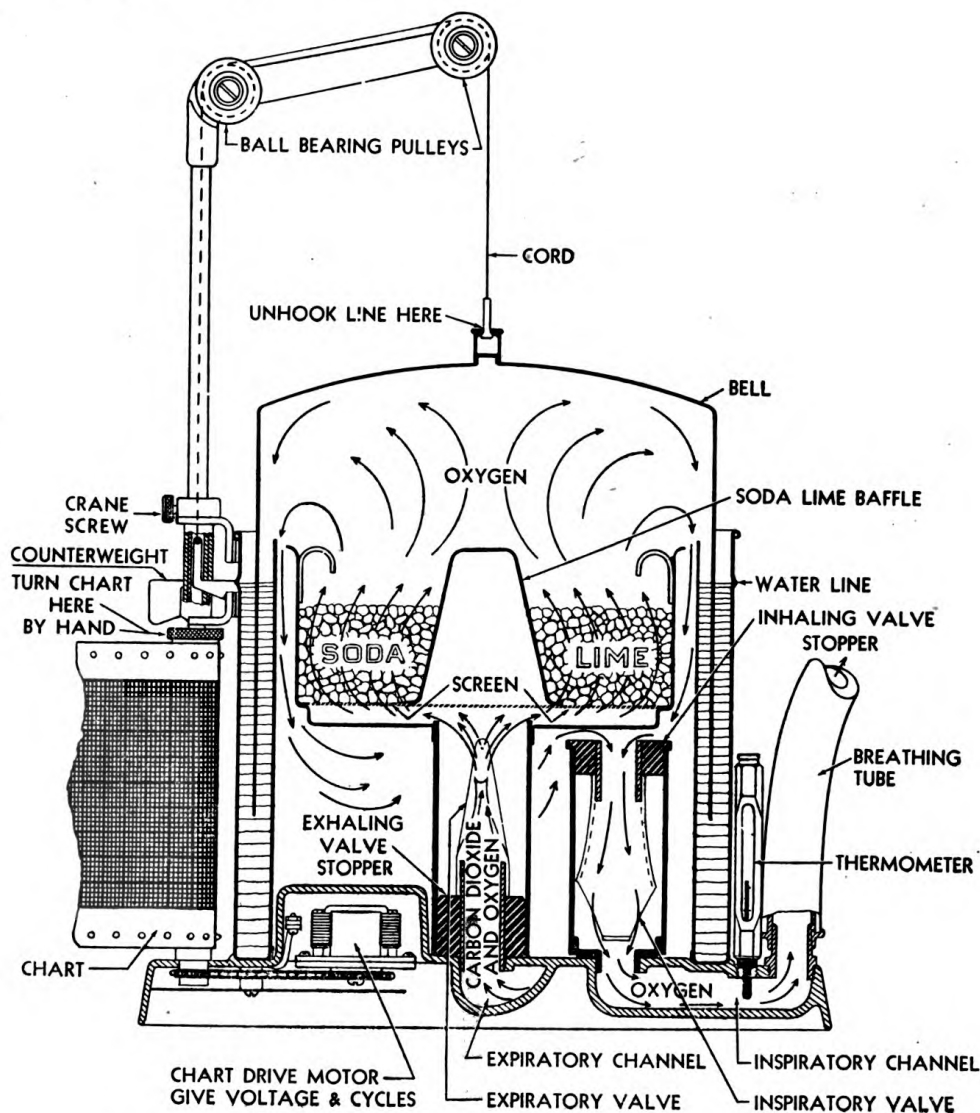

Figure 3. Cross section of McKesson Recording Water Type Metabolor.
d. Fill moat with water. (1) Replace soda lime container.
(2) Replace the bell and pour water (having the same temperature as the room) into the moat around the bell until it reaches the bead which is about 1 inch from the top (fig. 3). Excess water may be drained through a valve in the back of the instrument.
(3) Swing the crane to the right, back into place. Be sure the thumbscrew that locks the crane goes into the hole in the crane. A slightly depressed groove in the crane will help to gauge this. This hole centers the pulleys and puts them at the right height.
(4) Pass the counterweight cord over the pulleys and reconnect the end to the bell as before, being careful not to raise the bell.
e. Charge with oxygen. (1) Slip the oxygen yoke over the neck of the cylinder. Place it so the projection where the tube attaches to the yoke fits into the outlet hole of the oxygen cylinder. There should be a washer at this connection.